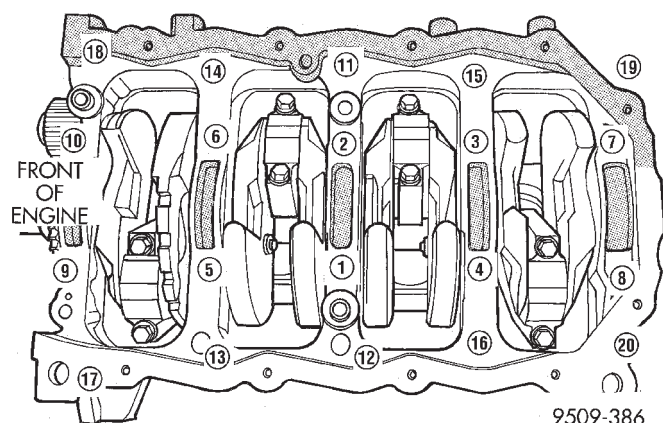

Fig. 14 Main Bearing Caps/Bedplate Torque Sequence
(7) Install main bearing bedplate to engine block bolts 11, 17 and 20 finger tight. Tighten these bolts down together until the bedplate contacts the cylinder block. Then torque these bolts to 28 N·m (20 ft. lbs.).
(8) Install main bearing bedplate to engine block bolts (1 through 10) and torque each bolt to 41 N·m (30 ft. lbs.) in sequence then in sequence turn each bolt 1/4 turn shown in (Fig. 14).
(9) Install main bearing bedplate to engine block bolts (11 through 20), and torque each bolt to 28 N·m (20 ft. lbs.) in sequence shown in (Fig. 14).
(10) After the main bearing bedplate is installed, check the crankshaft turning torque. The turning torque should not exceed 5.6 N·m (50 in. lbs.).
(1) Raise vehicle on a hoist and remove inner splash shield. Remove the right engine support assembly vertical fasteners from frame rail (Fig. 14).
(2) Lower vehicle. Remove the load on the engine motor mounts by carefully supporting the engine assembly with a floor jack.
(3) Remove the three bolts attaching the engine support assembly to the engine bracket.
(4) Move the air conditioning dryer aside.
(8) Reverse removal procedure for installation. Refer to (Fig. 14) for torque specifications.